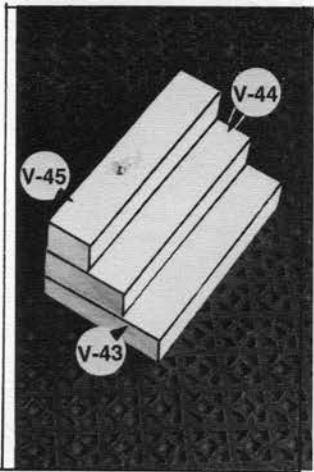

Fig. 14
**(FIGURE 14):** The stair assembled to this degree may be used for the back door stairs.